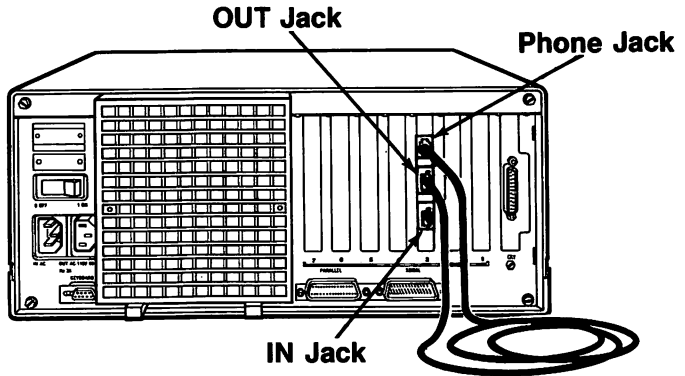

Figure 2-6. Plug one end of the cord into the Phone jack and the other end into the OUT jack.
12. Locate the 10-foot modular cord packaged with the XC 22 board. Check the alignment of the board by plugging one end of the cord into the "Phone" jack on the XC 22 board, and the other end into the OUT jack (Fig. 2-6).